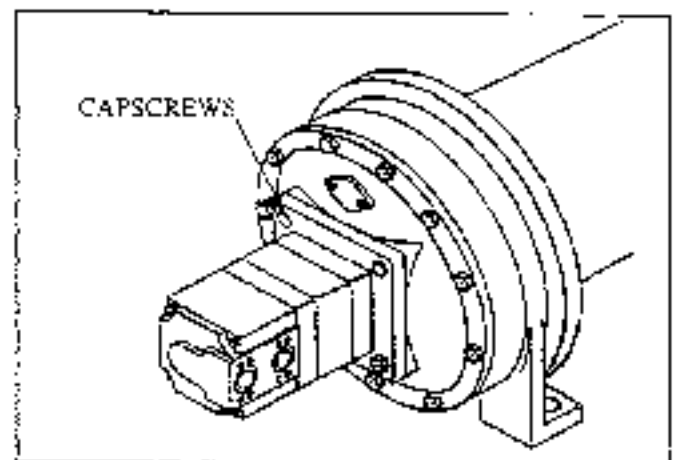
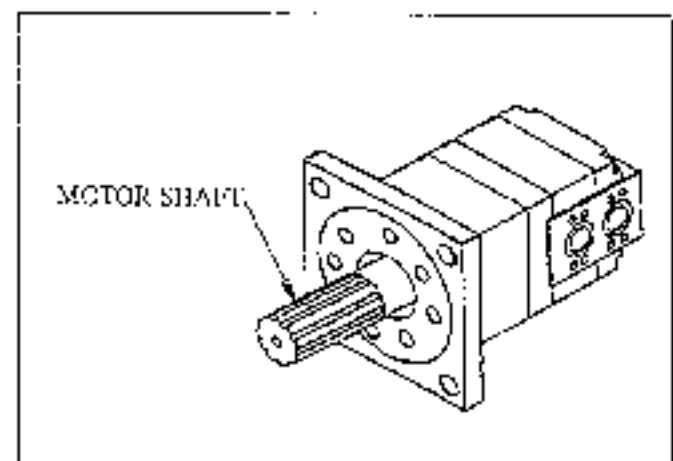

Figure 2
Figure 3
- (2) Remove the four capscrews which secure the motor. See Figure 2.
- (3) With a rubber mallet, tap the motor to break the seal and work the motor out of the pilot in the winch end cover. See figure 2. Save the motor shim for use in reassembly. See Figure 3.